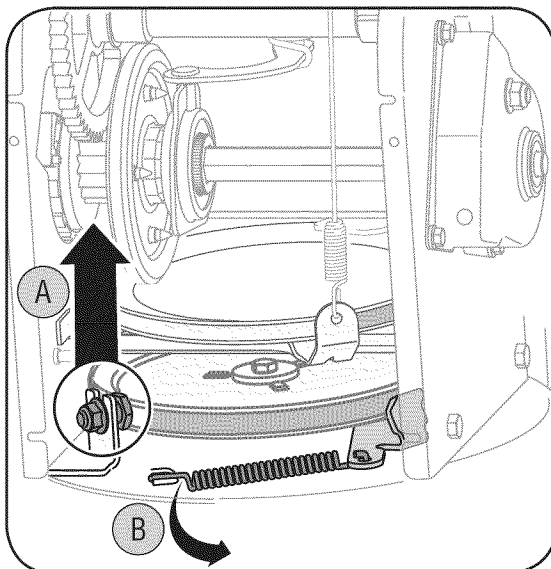

Figure 23
3. With the drive control engaged, the friction wheel must contact the drive pulley. Refer to Figure 23 on page 18.
2. **Hex Gear Shaft:** Once a season, lubricate the hex shaft with a penetrating oil, but not grease. Refer to Figure 23 on page 18.
2. a. Turn the shoulder screw a half a turn and slide it out of the mounting bracket. See Figure 23.
b. Unhook spring to release tension on the auger belt. See Figure 23.